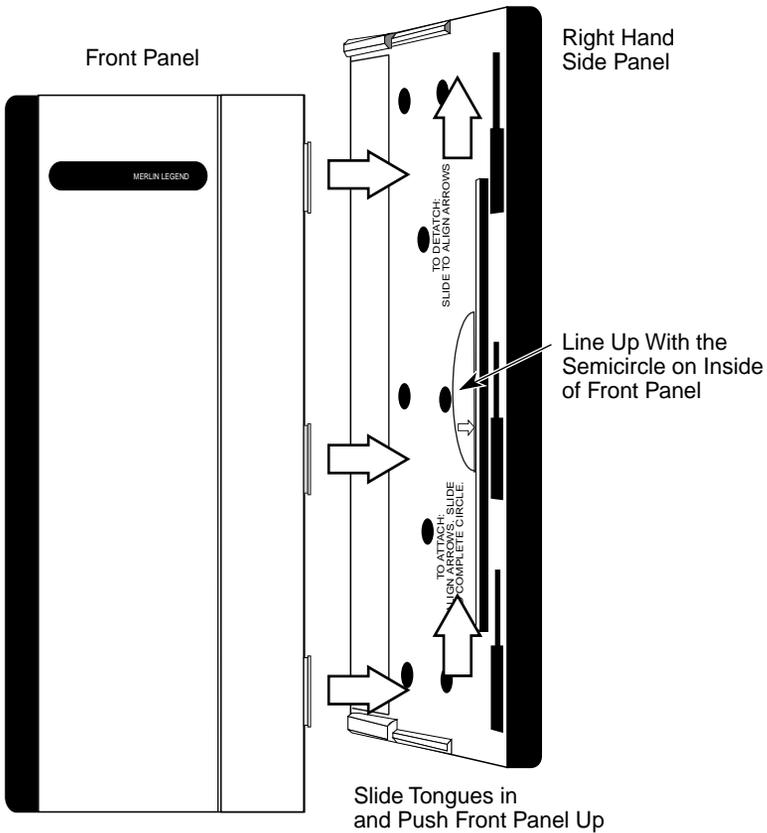

Figure 5-3. Assembling the Control Unit Housing (Release 2.0 and Earlier)
- ▶ **1. Assemble the control unit housing. See Figure 5-3.**